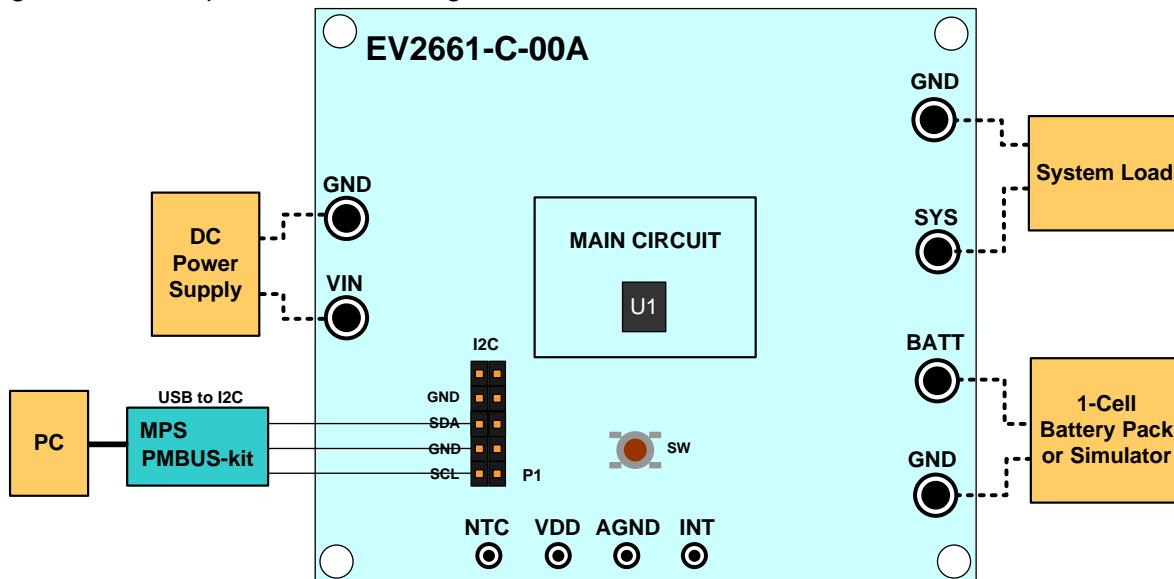

Figure5 Test Setup for MP2661
4) Original Test Setup for MP2661 in Figure5